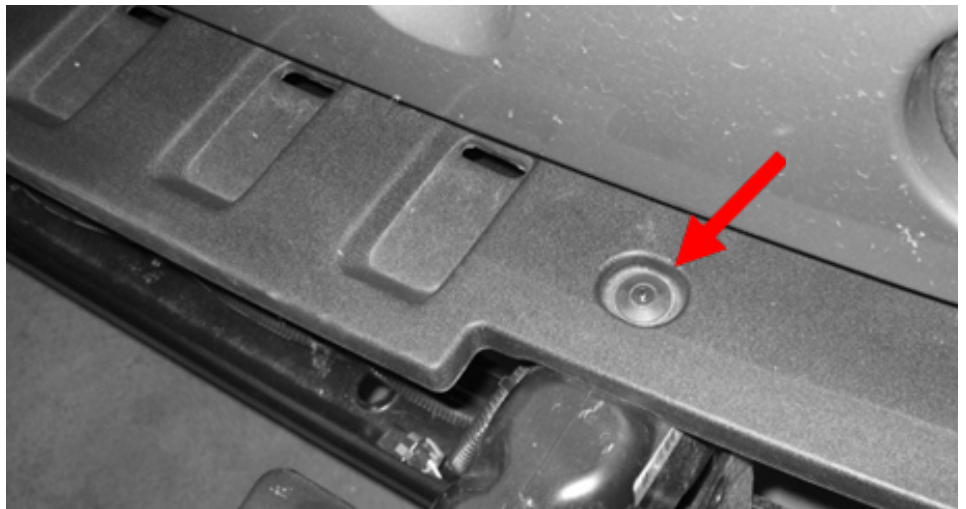

Figure 1
2. Using a plastic panel pry tool, remove the four (4) push pins located on the bottom of the bumper at the front of the skid plate.
3. Using a plastic panel pry tool, remove the two (2) push pins located on the bottom of the skid plate at the cross member
4. Using a Phillips head screwdriver and plastic panel pry tool, remove the two (2) threaded push pins located across the top of the plastic frame closeout panel. (Figure 1)